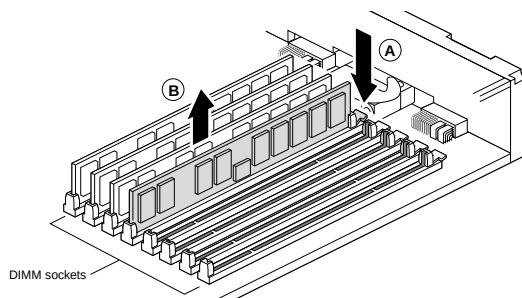

Figure 5 - DIMM Removal & Installation
- a.) Locate the memory on the System Module and unlatch them. Press down on the latch, as shown in Figure 5, near the end of each DIMM socket. The DIMMs will partially eject from the socket.
- a.) Insert the DIMMs onto the new system module and into their sockets. You'll hear a click when they are latched-in. Notice how the latch on the end of the socket moves up when they're seated properly. *DIMMs are notched on the bottom so that they cannot be inserted incorrectly.* See Figure 5.